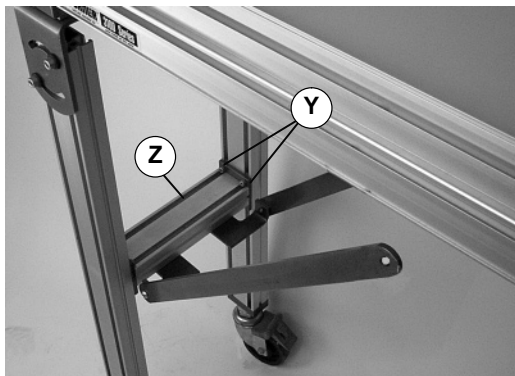

Figure 6
4. Repeat step 3 for left offset plate (T).
5. Loosely attach brace bars (V) to offset plates (S & T) with screws (U).
6. If required, loosen eight (8) screws (Y of Figure 6) and re-locate crossmember (Z) to attach brace bar(s) to conveyor.